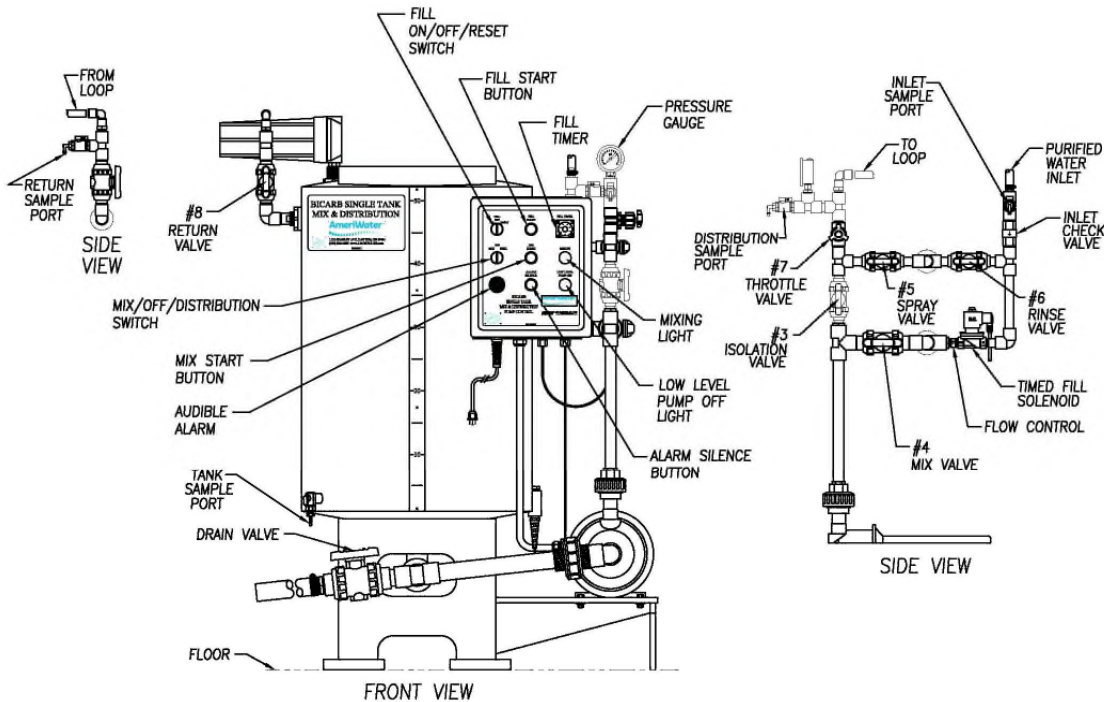

Fig. 4-1
The tank is equipped with a low-level float switch, light and audible alarm. The pump will shut off, but the warning light remains illuminated and audible alarm stays on until the low level condition has been corrected. The audible alarm can be silenced by depressing the alarm silence button. The MIX cycle can be operated without interruption (for 10 minutes or whatever time is set on the TD2 timer inside the control box) when the tank level is above 15 gallons. Operating the mixing eductor at or below the 15 gallon level may require turning down the force of the mixing action with the #4 mix valve (see FIG 4-1).
9. Make sure that the switches on the Bicarb controller are turned off (see Fig. 4-1), and plug the controller into a dedicated 120 V, 20 AMP, single-phase, GFI electrical service outlet.
Please read and follow all the guidelines and recommendations of the solution manufacturer before proceeding with the start-up procedures. Refer to Fig. 4-1 to reference the control box and valve designations.